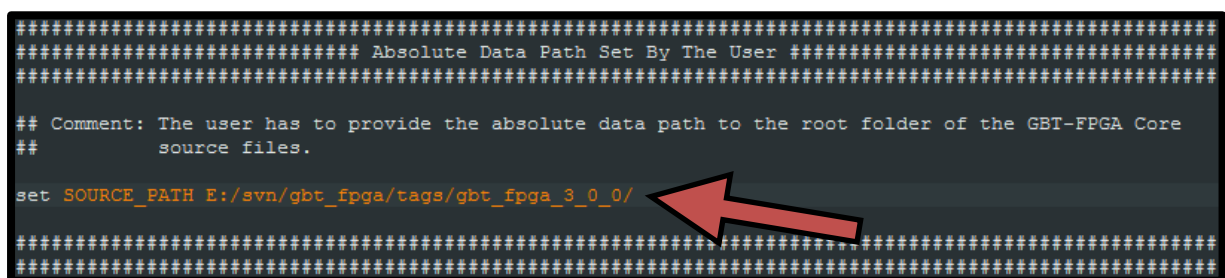

Figure 17: Modifying the absolute data path of the TCL script file
3. Set the variable "SOURCE\_PATH" with the absolute path of the root folder of the GBT-FPGA project on your computer (see Figure 17).